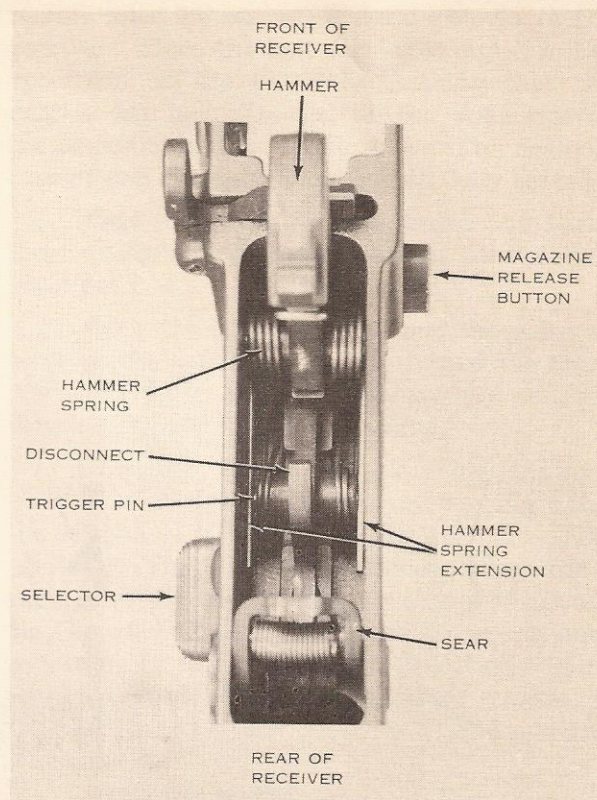

Figure 27. Position of the hammer spring in the receiver.
f. Press the hammer into its position in the receiver, insuring that the tails of the hammer spring are to the rear and in the grooves on either side of the trigger pin (fig. 27). Pushing down and forward on the hammer, align the holes in the receiver and the hammer. Use the